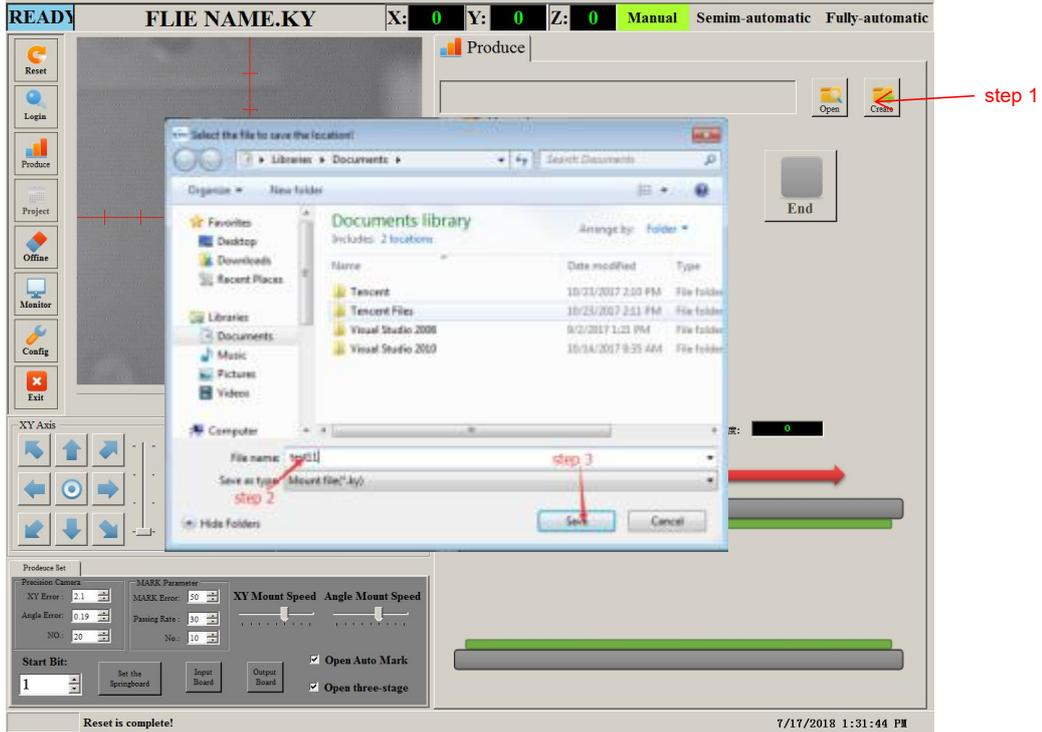

Figure 5-4
1) Produce→Create→name Show as Figure 5-4